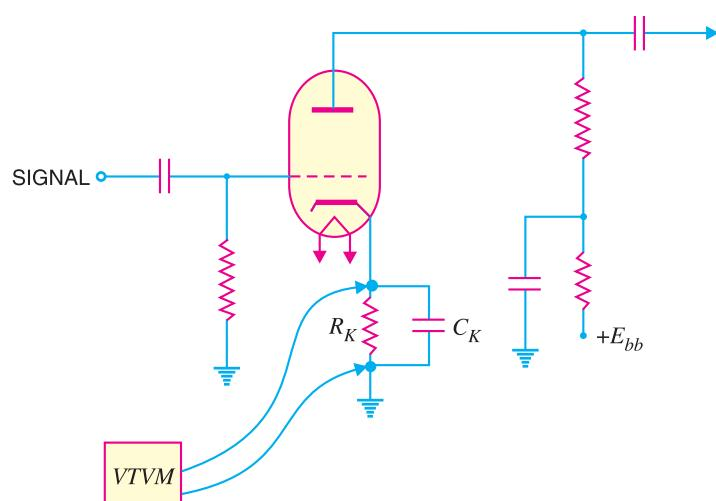

Fig. 22.14
**(i) d.c. voltage measurements.** A VTVM can accurately measure the d.c. voltages in an electronic circuit. The d.c. voltage to be measured is applied at the input (*i.e.* grid of  $V_1$ ) terminals in such a way that grid of the input valve  $V_1$  is always negative. Fig. 22.14 shows the circuit of an amplifier stage and measurement of d.c. voltage across cathode resistor  $R_K$ .
**(ii) d.c. current measurements.** A conventional VTVM does not incorporate a current scale. However, current values can be found indirectly. For instance, in Fig. 22.14, the d.c. current through  $R_K$  can be found by noting the voltage across  $R_K$  and dividing it by the resistance  $R_K$ .